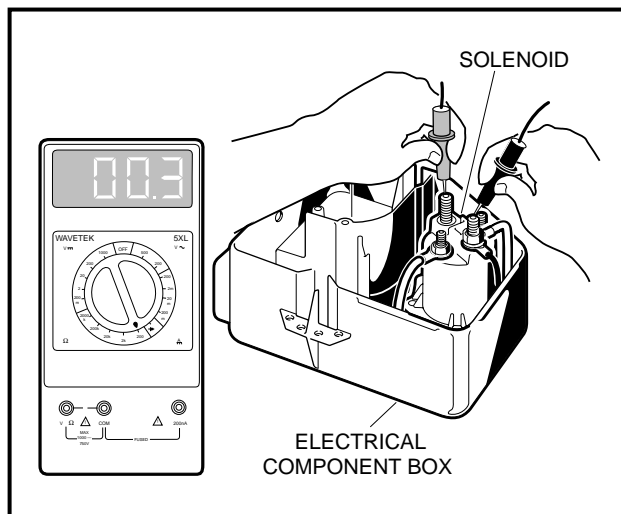

Figure 11-30 Test Solenoid Continuity
- Set the multimeter to 200 Ω (ohms). Connect the red (+) probe to one of the large posts of the solenoid and connect the black (-) probe to the other large post (**Figure 11-30, Page 11-28**).